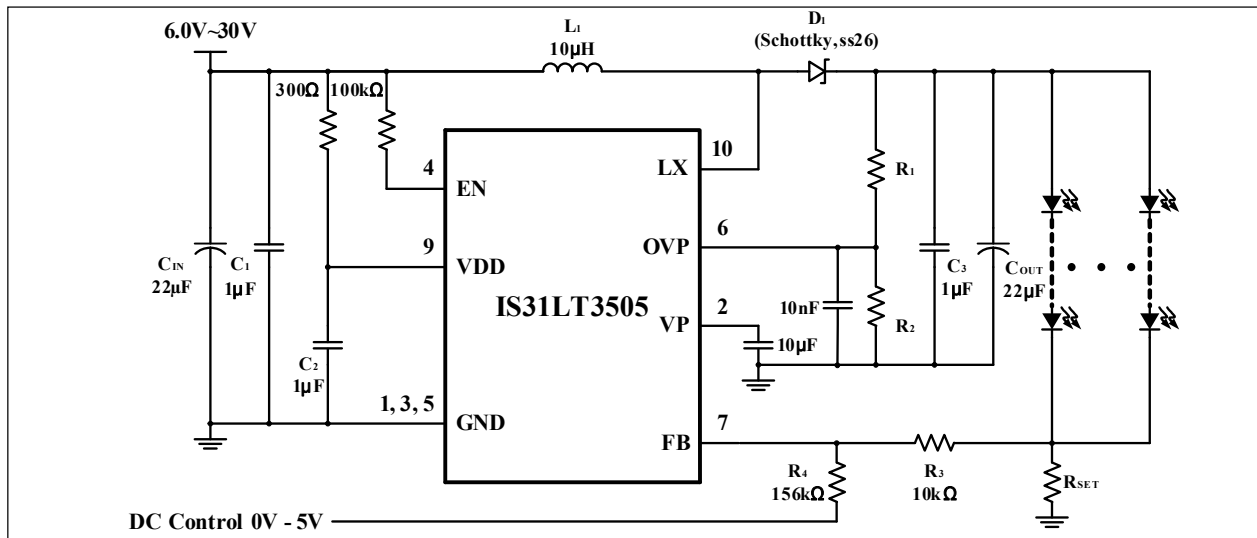

Figure 14 Application Circuit (Constant Current to Drive White LEDs With DC Dimming)
IS31LT3505 can modulate the brightness of LEDs by controlling the DC voltage or the PWM duty cycle (Figure 14, 15).
Figure 14 shows that the intensity of the LEDs can be adjusted by the DC voltage. As the DC voltage increases, the current pass through R3 increasingly and the voltage drop on R3 increases, i.e. the LED current decreases. The LED current can be calculated by the Formula (2). The internal feedback voltage V_{FB} is 0.3V (Typ.).
When the DC voltage is from 0V to 5V, the value of R3 should be 10kΩ. Refer to Figure 14.